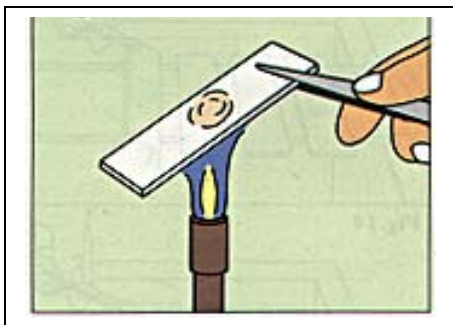

Fig. 12
- Hold the dry slide using forceps with the smeared side facing upwards (Fig.12)